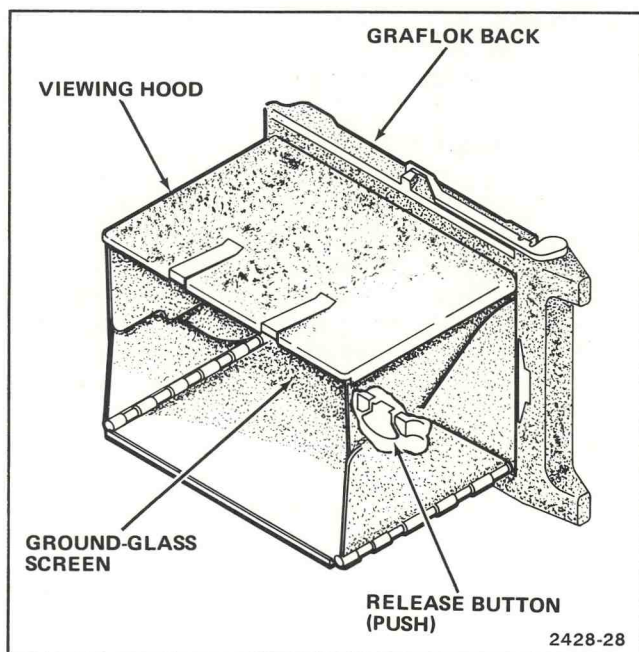

Figure 2-9. View hood attached to the Graflok back.
3. Press the release button on the bottom-rear side of the Graflok back to open the folding viewing hood as shown in Figure 2-9. With the shutter open, observe the image on the ground glass screen of the Graflok back.